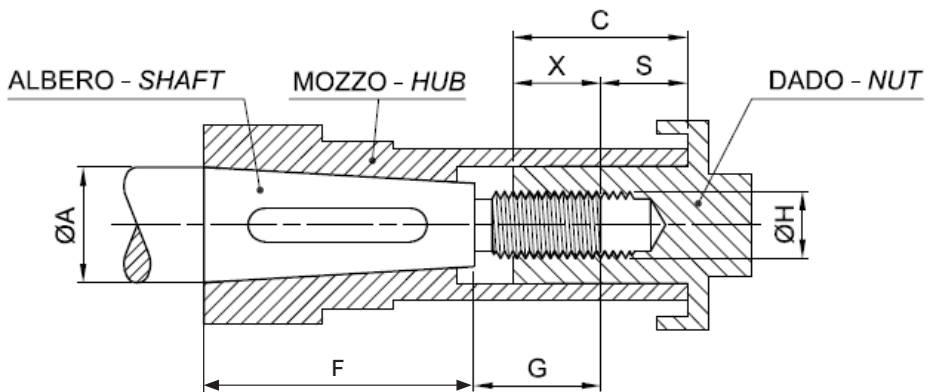

fig. 1
- c. Check the screwing length of the nut (refer to fig.1 where the screwing length is indicated with "X"). To check this we suggest inserting the propeller onto the conical end of the propeller shaft and pushing it against the cone of the shaft (carry out this operation without inserting the key). When the propeller is against the shaft cone, measure the distance between the end of the shaft and the end of the hub (indicated in the figure with "S"). The length "X" is obtained by subtracting the length "S" from the length of the nut "C". The length "X" must be less than "G" and it is recommended that "X" is greater than 0,8 times the thread diameter indicated with " $\varnothing H$ ".